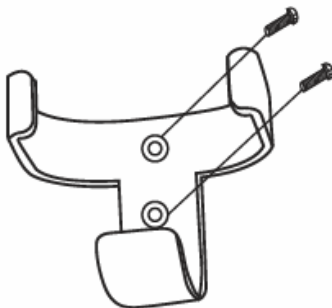

Fig. 9a
1. Locate a suitable wall to fix the remote control holder with the 2 screws. (Fig.9a).